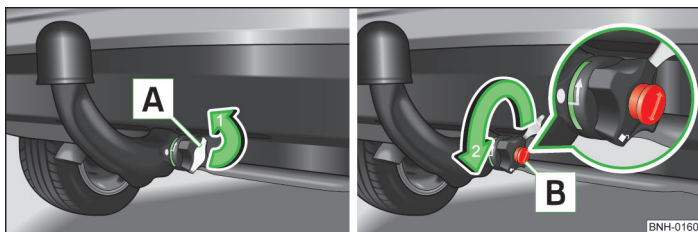

Fig. 11 Remove cap lock / unlock lock
- Remove the cap **A** of the handwheel in the direction of the arrow 1 » Fig. 11.